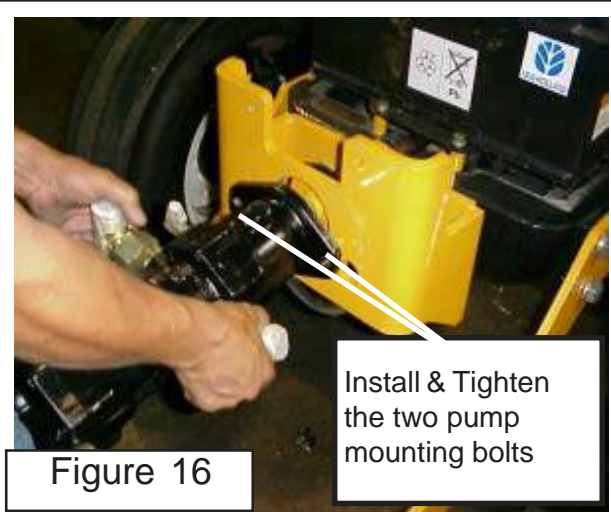

Figure 16
**15. Install Pump Retaining bolts.** The pump retaining bolts are to be installed by hand. The pump should be seated into the opening provided in the pump mount weldment for the pump flange ring (See Figure 16). Install the two pump mounting bolts and tighten them. DO NOT use the bolts to force pump flange into the pump mount weldment, if you do you will break the flange ears off of the pump. If the pump will not go by pushing it in take the pump out and check the opening for excess paint or burrs. The pump must be installed with suction to LH side.